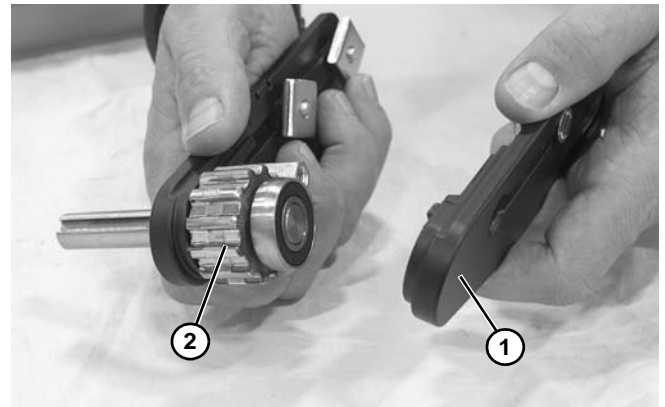

Figure 64
4. Remove the head plate (**Figure 64, item 1**) and remove the spindle (**Figure 64, item 2**).